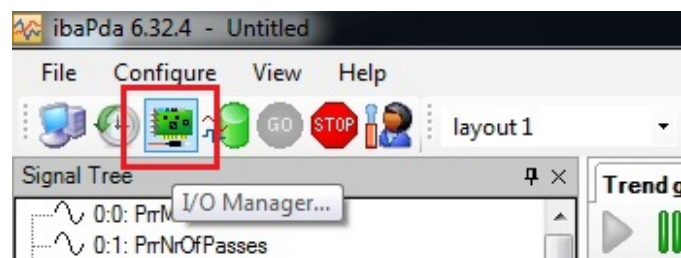

Figure 6: Opening iba I/O Manager
- If the Card is mounted & installed correctly you can see the green LEDs of each slot of IBA card blinking. Also you can open PDA Client, then click on the Iba I/O Manager icon as shown in Figure 6.